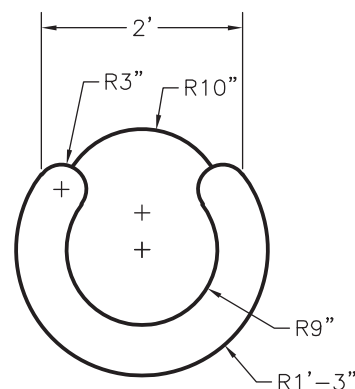

Fig. 17-5
6. Zoom in on the lower left quarter of the drawing area and create the chair shown in Fig. 17-5. Use the following information.